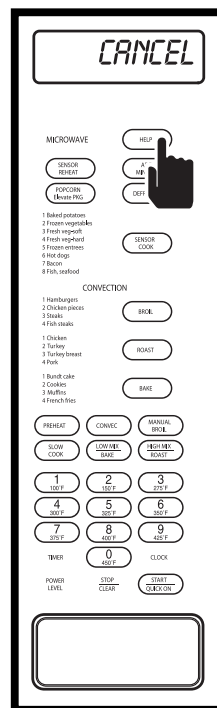

Figure 3-63.
4. For this example, to switch the Child Lock Feature off, press the HELP key again and "TO - CANCEL - LOCK - PRESS - CLEAR" will flash on display (See Figure 3-63).